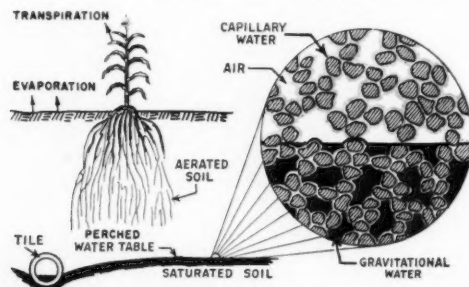

Fig. 3 This enlarged section of soil shows the difference between capillary and gravitational water
- 2 Capillary — the water that is loosely held around each soil particle as a result of capillary attraction. It is from this film of water that plants receive the water and most of the nutrients necessary for normal growth (Fig. 3).
- 3 Gravitational — the water in excess of the capillary water which is removed under the force of gravity. It fills the openings between the soil particles and granules that hold the capillary water. Removal by gravity may be so slow that it becomes harmful to plant growth since it excludes air which is essential to roots and thus restricts root growth. Gravitational water will collect as free water in an open hole (Fig. 3).